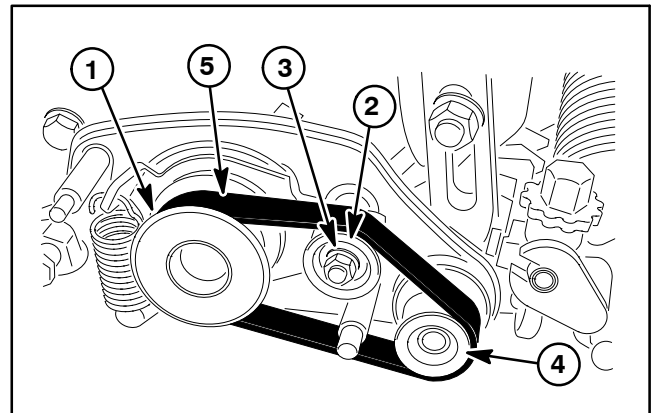

Figure 4
5. Pivot idler pulley by placing a 12mm wrench on pulley nut and rotating idler bracket to relax belt tension. Slip groomer drive belt off pulleys (Fig. 4). Carefully release idler bracket.
6. Install new drive belt to drive pulley, idler pulley and driven pulley observing correct belt routing (Fig. 4).